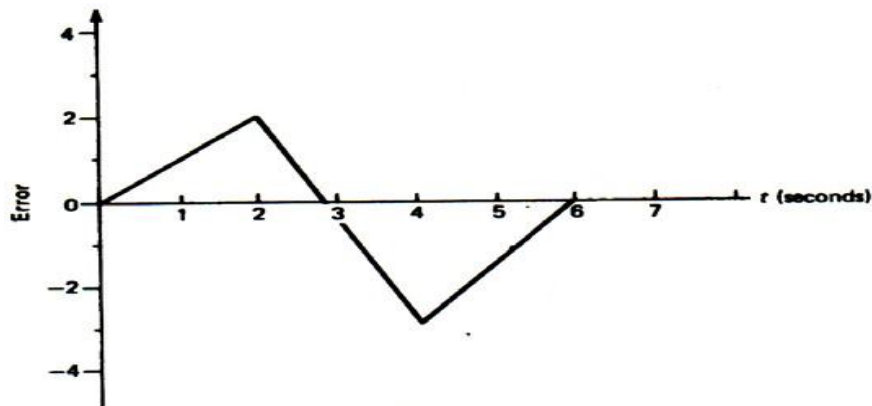

Figure 5
- Q.13 Figure 5 shows an error time graph. Sketch the PID controller (series form) output w.r.t time. Assume  $K_p=10$ ,  $K_i=2$ ,  $K_D=0.5$  and  $P_O = 0$  i.e the controller output is zero when the error is zero. 12